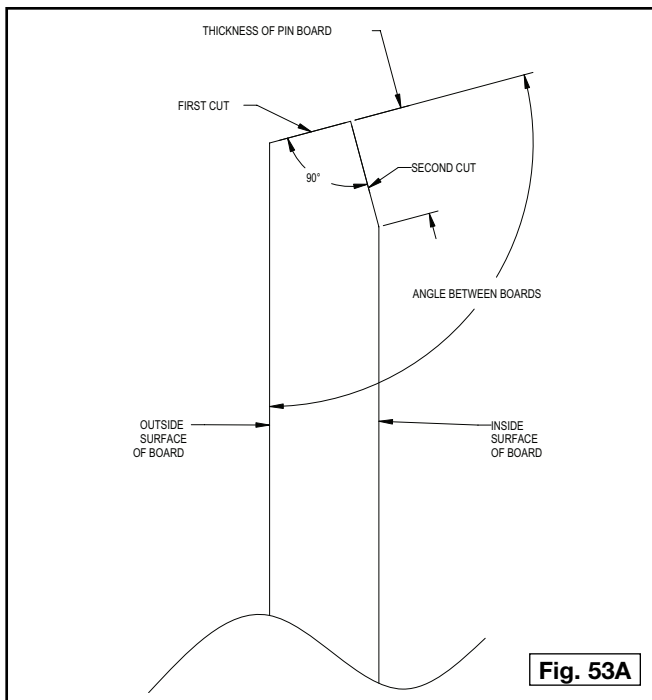
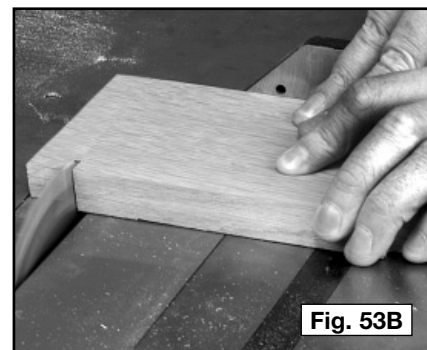
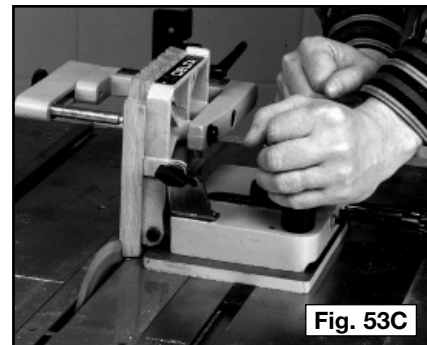

Fig. 53A
Fig. 53B
Fig. 53C
- Step 1** - Cut the end of the tail board according to the instructions in the drawing (Fig. 53A). You can make these cuts on a table saw with the blade beveled (Fig. 53B). Set the miter gauge at 90° for the first cut, then use a tenoning jig for the second cut (Fig. 53C).